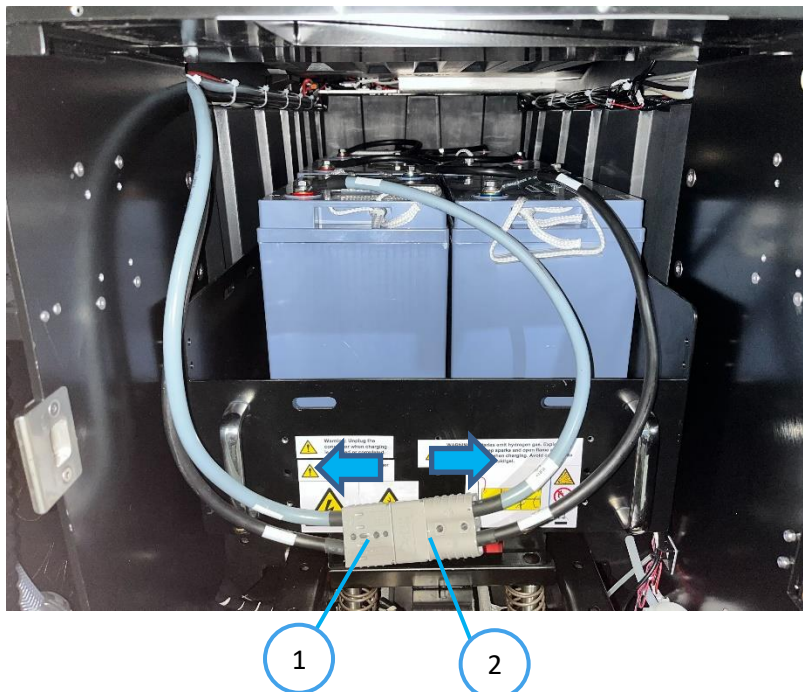

Fig. 1
1. The manual charging port (1) is located at the rear of the robot and can be accessed by opening the chemical cabinet (Fig 1).
2. Unplug the machine cable port (Fig. 1 – 1) from the batteries cable port (Fig 1 – 2).